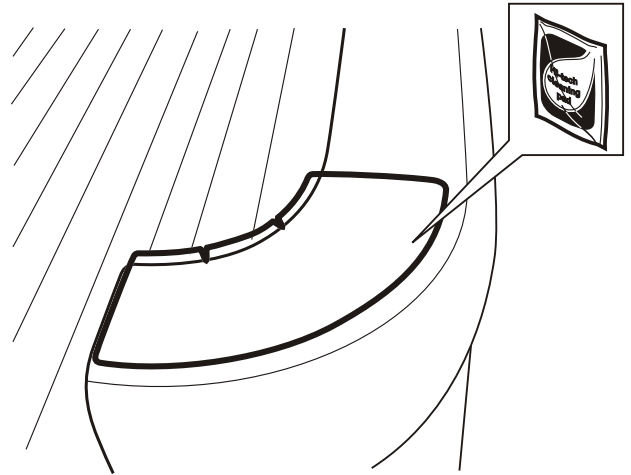

Figure 7
13. Use a cleaning pad to wipe the surface of the anti-abrasive tape. Refer to figure 7.